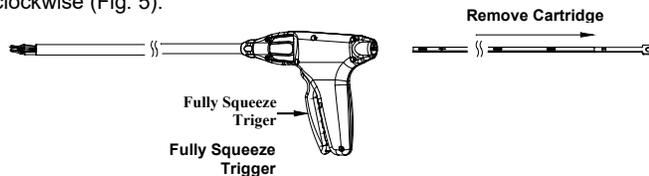

Fig. 4
1. Remove and discard the disposable clip cartridge by fully squeezing the trigger against the handle as shown on Fig.4. If all 19 clips have not been fired, squeezing the handle and removing the cartridge will engage and release one clip. In this case, make sure to fire the engaged clip onto something such as a drape so that the contaminated clip does not fall onto the floor, stick to the jaws or fall inside the instrument shaft potentially causing a jam or safety hazard. (This step serves as a warning note on the "Cleaning and Sterilization" steps. Microline PENTAX shall not be responsible for any damages occurring as a result of a non-compliance with this warning.